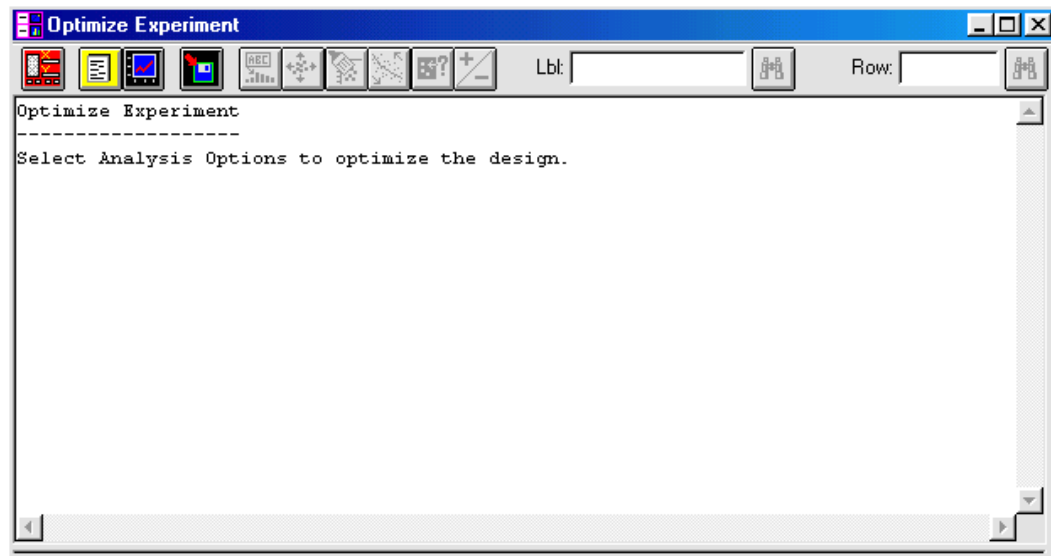

Figure 2-7. Optimize Experiment Window
9. Choose **SPECIAL... EXPERIMENTAL DESIGN... OPTIMIZE DESIGN...** from the Menu bar to optimize the design and display the Optimize Experiment window (see Figure 2-7).